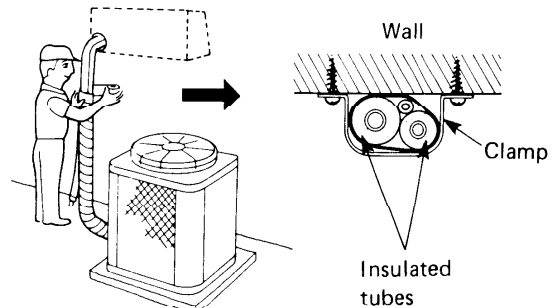

Fig. 31
- b) Wrap the armoring tape from the bottom of the outdoor unit to the top of the tubing, where it enters the wall. As you wrap the tubing cover half of each previous tape turn. Fig. 31